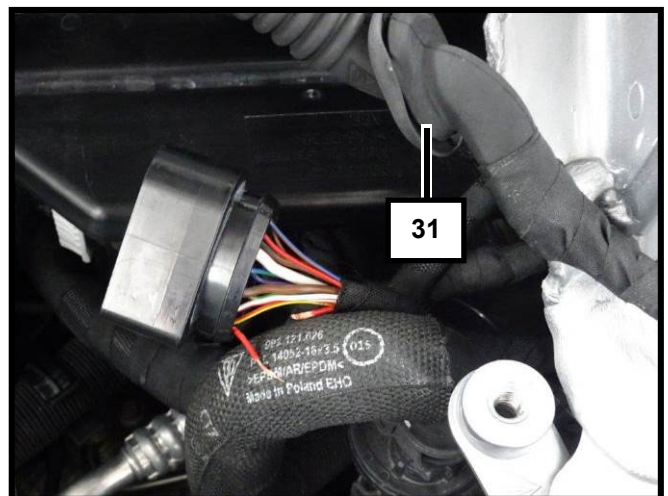

Fig. 45
- 35 Separate the cable red Pin 1 about 20mm in front of the 14-way plug at the vehicle. See fig. 45.